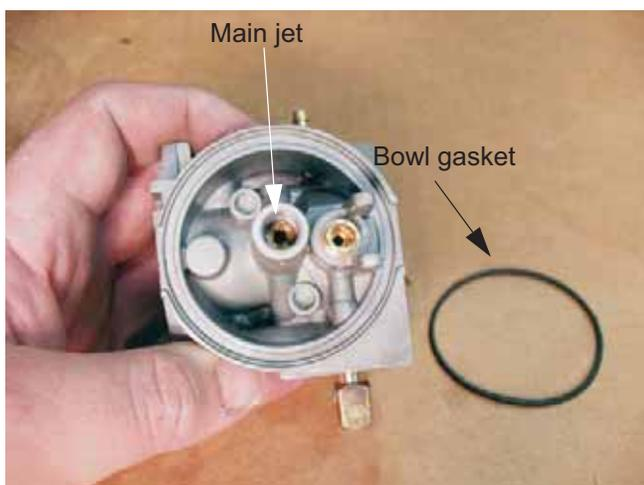

Figure 4.29
9. Remove the main jet using a narrow-shank straight blade screwdriver. See Figure 4.29.